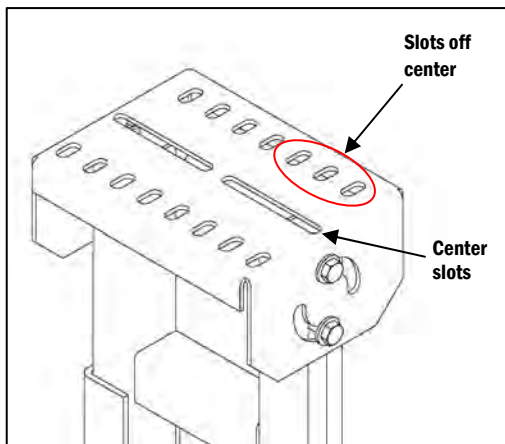

Figure 2
- c. If the Stand is only 2" wider than the conveyor, then the slots off of the center of the Stand's Top Plate will have to be used for mounting (Figure 2).